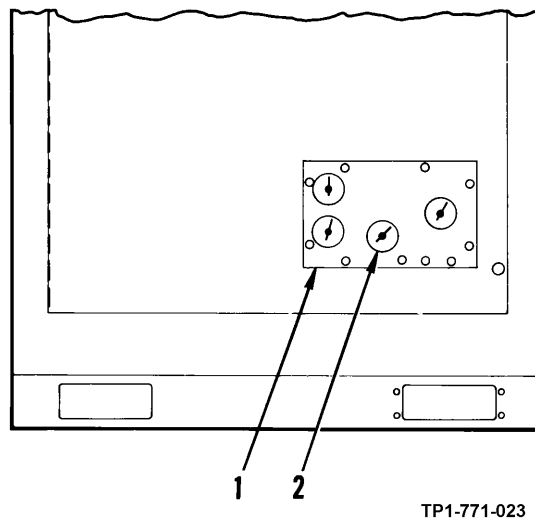

Figure 2-17. Gage Locations
- (4) On pneumatic control panel (1, figure 2-17), verify that source gage (2) indicates a maximum of 125 PSI. Verify that the other three gages show a PSI indication. Gages will not indicate same pressure.